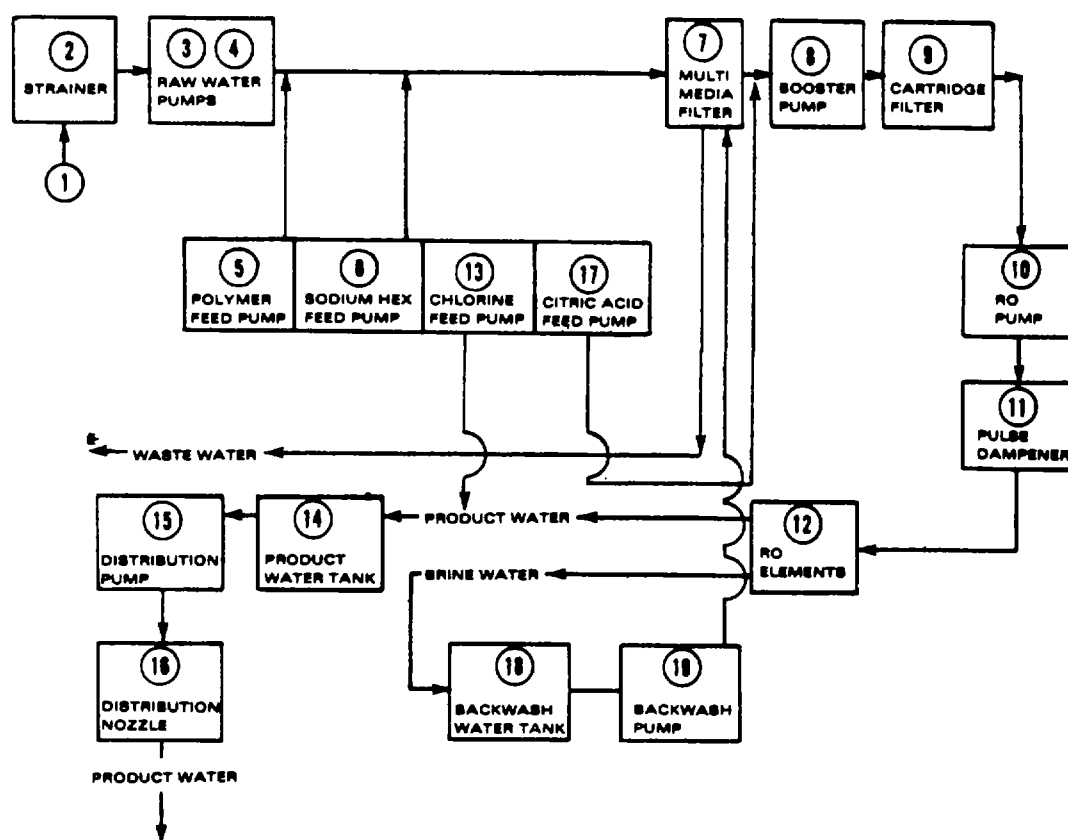

Figure 1-15. Water Processing Block Diagram
**1-9. WATER PROCESSING AND CHEMICALS.** The ROWPU removes suspended solids (called turbidity), chemicals, and solids held in solution (called dissolved solids), found in most fresh water and seawater sources, to a level fit for human consumption. This is done by filtering with the aid of the reverse osmosis process, and then additional purification using selected chemicals. Refer to figure 1-15 to follow the process described below.